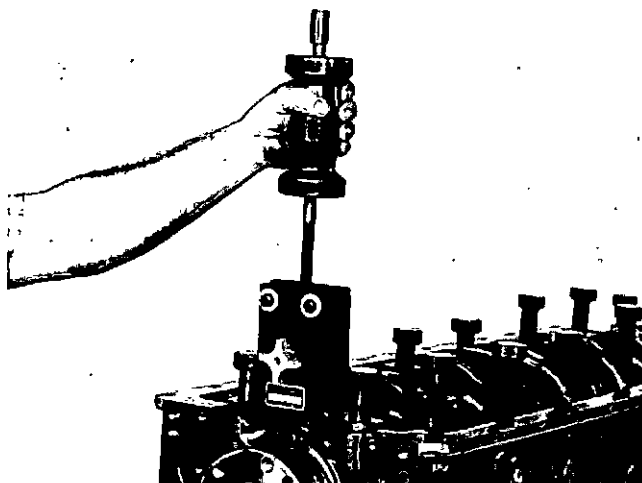

Fig. 0-57. Remove The Main Bearing Caps.
2. Use the Part No. ST-1178 Main Bearing Cap Puller to pull the main bearing caps from the dowels in the cylinder block, Fig. 0-57. Make sure all the bearing caps have a mark so that they can be installed in the correct position.